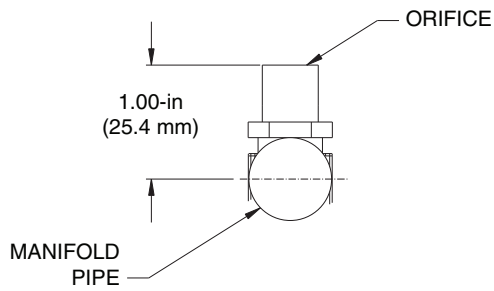

Fig. 50 — Orifice Projection
Refer to Fig. 50 for maximum projection dimension for the orifice face to manifold tube.
5. If the factory orifice has been removed, check that each orifice is tight at its threads into the manifold pipe and the orifice projection does not exceed the maximum value. See Fig. 50.
Check that each replacement orifice is tight at its threads into the manifold pipe and that orifice projection does not exceed maximum value. See Fig. 50.